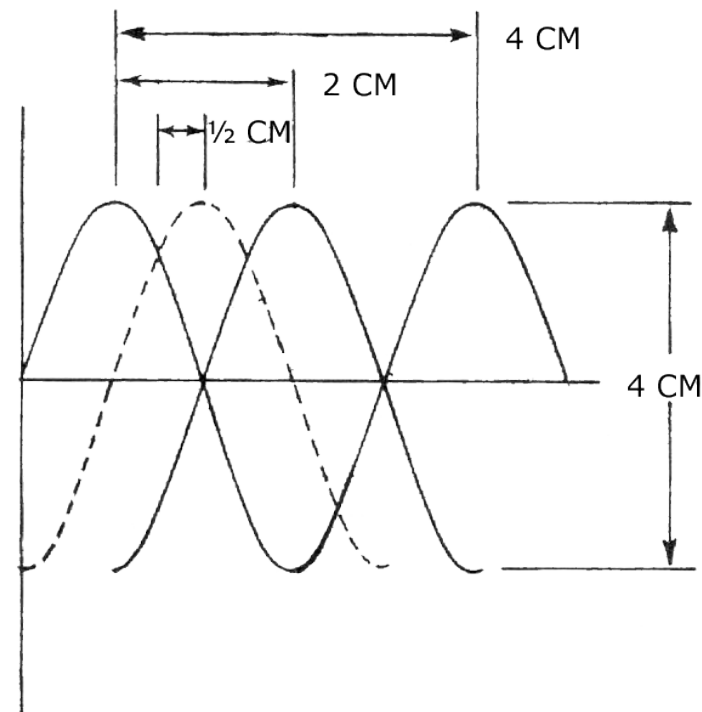

Figure 4-1: Vibrato Adjustment Waveform
- h. Depress the VIBRATO NORMAL tab Adjust the VIBRATO WIDTH control for a total phase shift swing of 2 cm (refer to *Figure 4-1*. If VIBRATO WIDTH control does not give a satisfactory result, select R133, *Figure 5-2* between 220 Ω and 1K Ω .
- i. Release VIBRATO NORMAL tab. Single wave must be centered $\pm 1/2$ cm as shown in *Figure 4-1*.